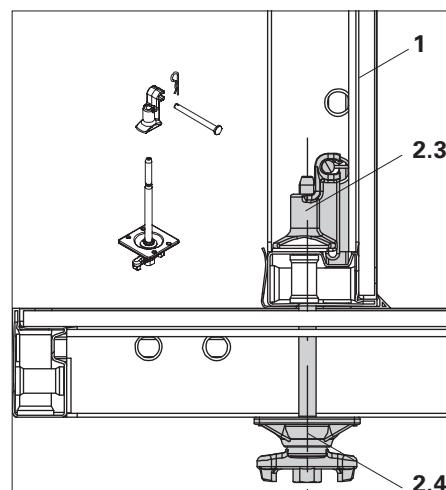

Fig. A3.01b
4. Screw in the TRS Clamp (2.4) into the Inserting Nut from the outside and tighten. (Fig. A3.01b)